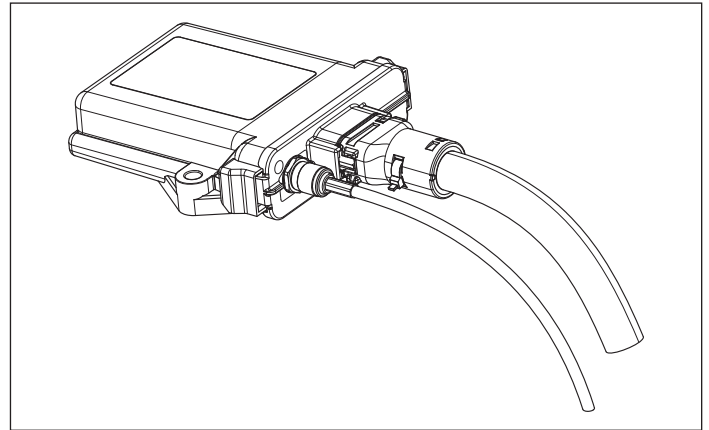

Figure 9 - Connecting the Patch Cable to the New ECU
5. Plug the 4-pin Deutsch connector into the patch cable. See Figure 9.